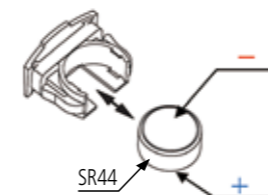

Fig. 1
4. For a digimatic type, use an SR44 battery (Order No. 938882). (Fig. 1)